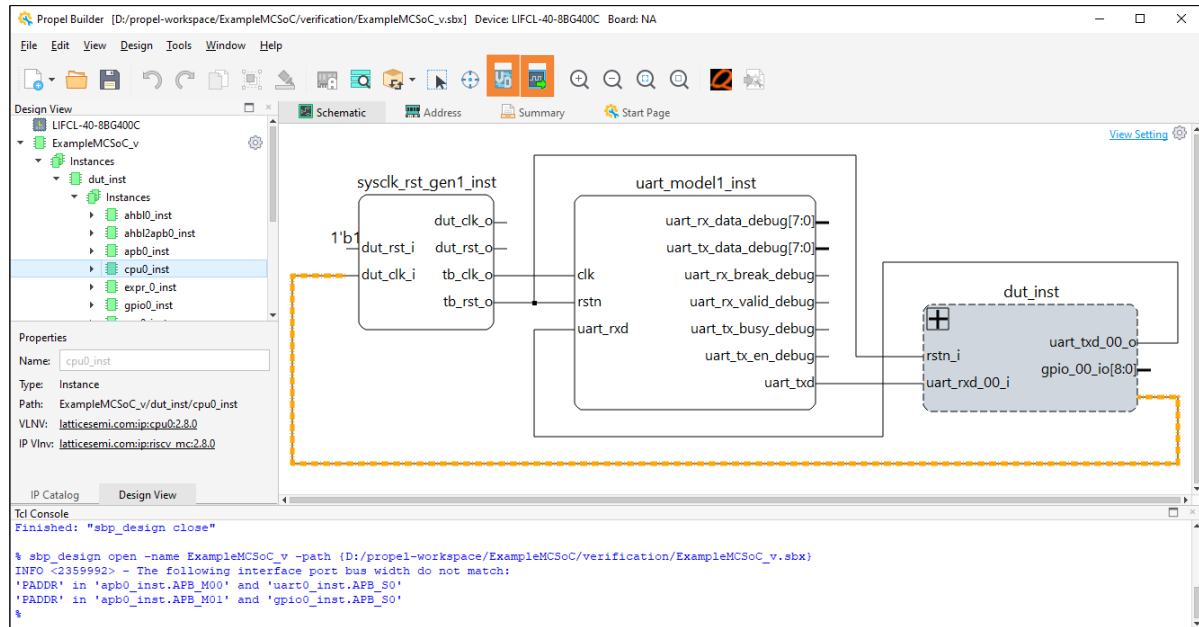

Figure 3.36. SoC Verification Project
2. Click the **Switch** icon  on the toolbar to switch between SoC design and SoC verification project (Figure 3.36).
3. After the SoC design is switched to an SoC verification project, click the **Generate** icon  to generate the simulation environment. Click the **Launch Simulation** icon  (Figure 3.36).